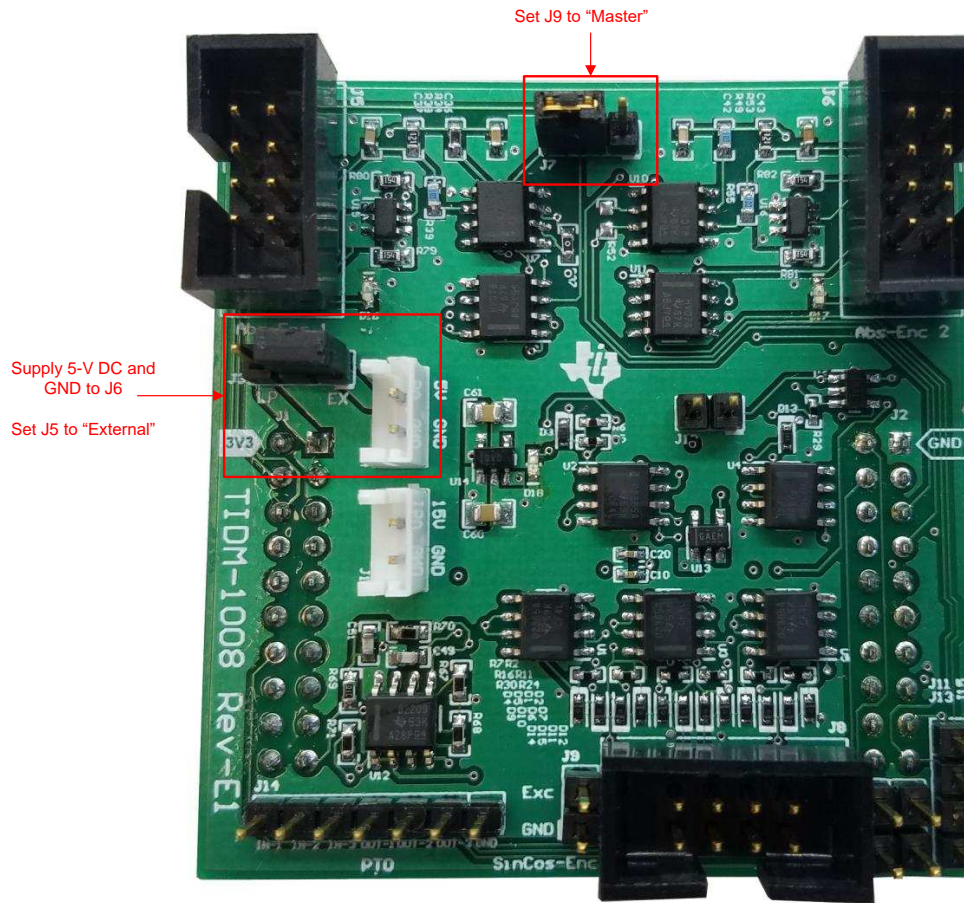
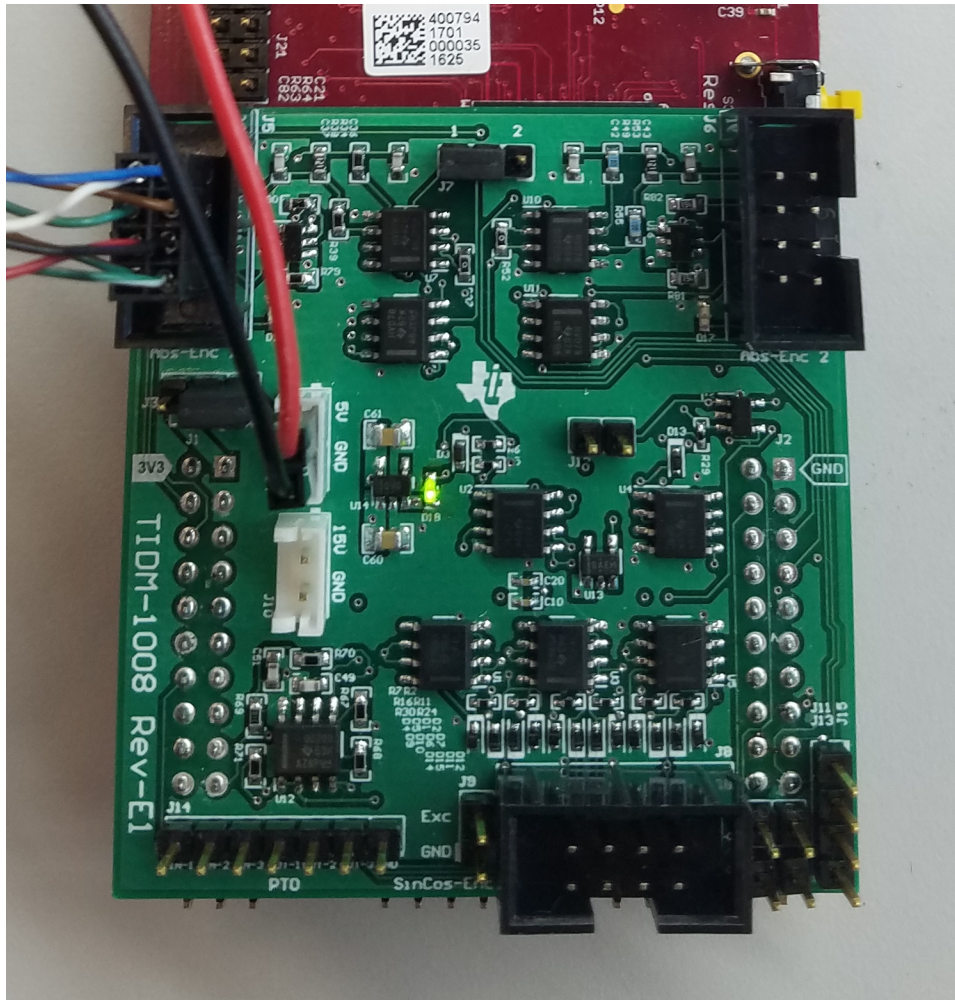

図 5. TIDM-1008 Board Jumper Configuration
Figure 12. TIDM-1008 Board Powered on and Connected to Heidenehain Encoder
⁽¹⁾ This configuration requires providing an external power source to J6 as shown in 図 5.
- Supply 5-V DC and GND to J6 as shown in Figure 5. The board should now look like Figure 12. LED D18 should light, which shows that the board has power.